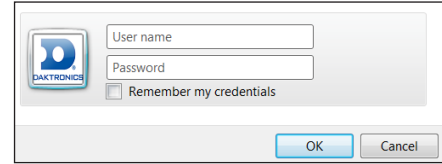

Figure 20: VIP-5000 Series Login
2. Type **Dak** in the **User name** text box and the appropriate password in the **Password** text box. Refer to **Figure 20**.